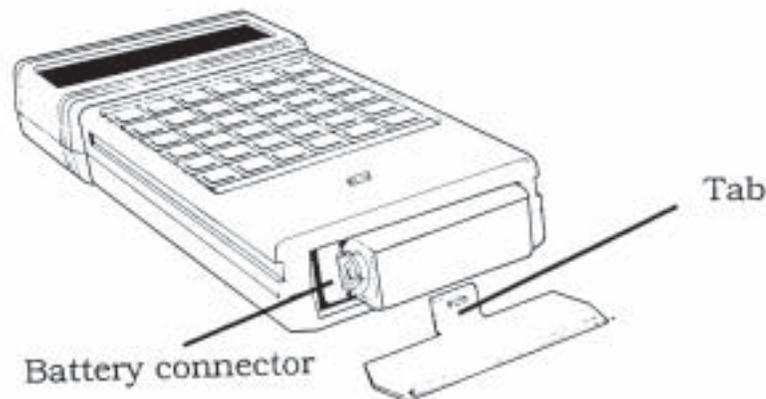

Fig. 4.0-1 Battery Compartment
A. Make sure a 9 Volt alkaline battery is in the battery compartment located at the bottom of the PSION unit (Fig. 4.0-1). Please be sure that the battery properly orientated when installing.